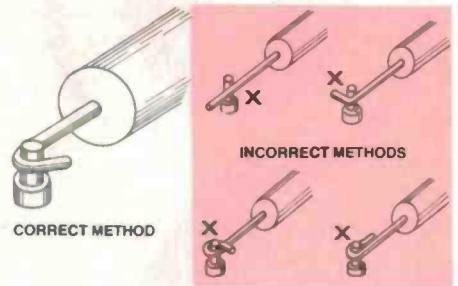

Figure 27. How to attach a component lead to a terminal pin before soldering.
**Terminal Pins** are often used with matrix board, being inserted into the holes at convenient positions. The component lead should be bent around the pin, making an angle of approximately  $135^\circ$ , as shown in Figure 27 (left). If the angle is too small, the connection is mechanically weak — it depends too much on the solder. If the lead is wrapped right around the terminal it is difficult to remove (Figure 27, right).